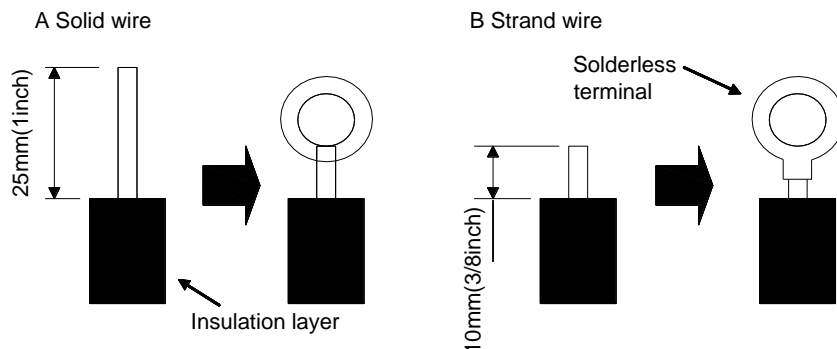

Figure 3-2-10
(1) For solid core wiring (Figure 3-2-10)
(2) For strand wiring (Figure 3-2-10)